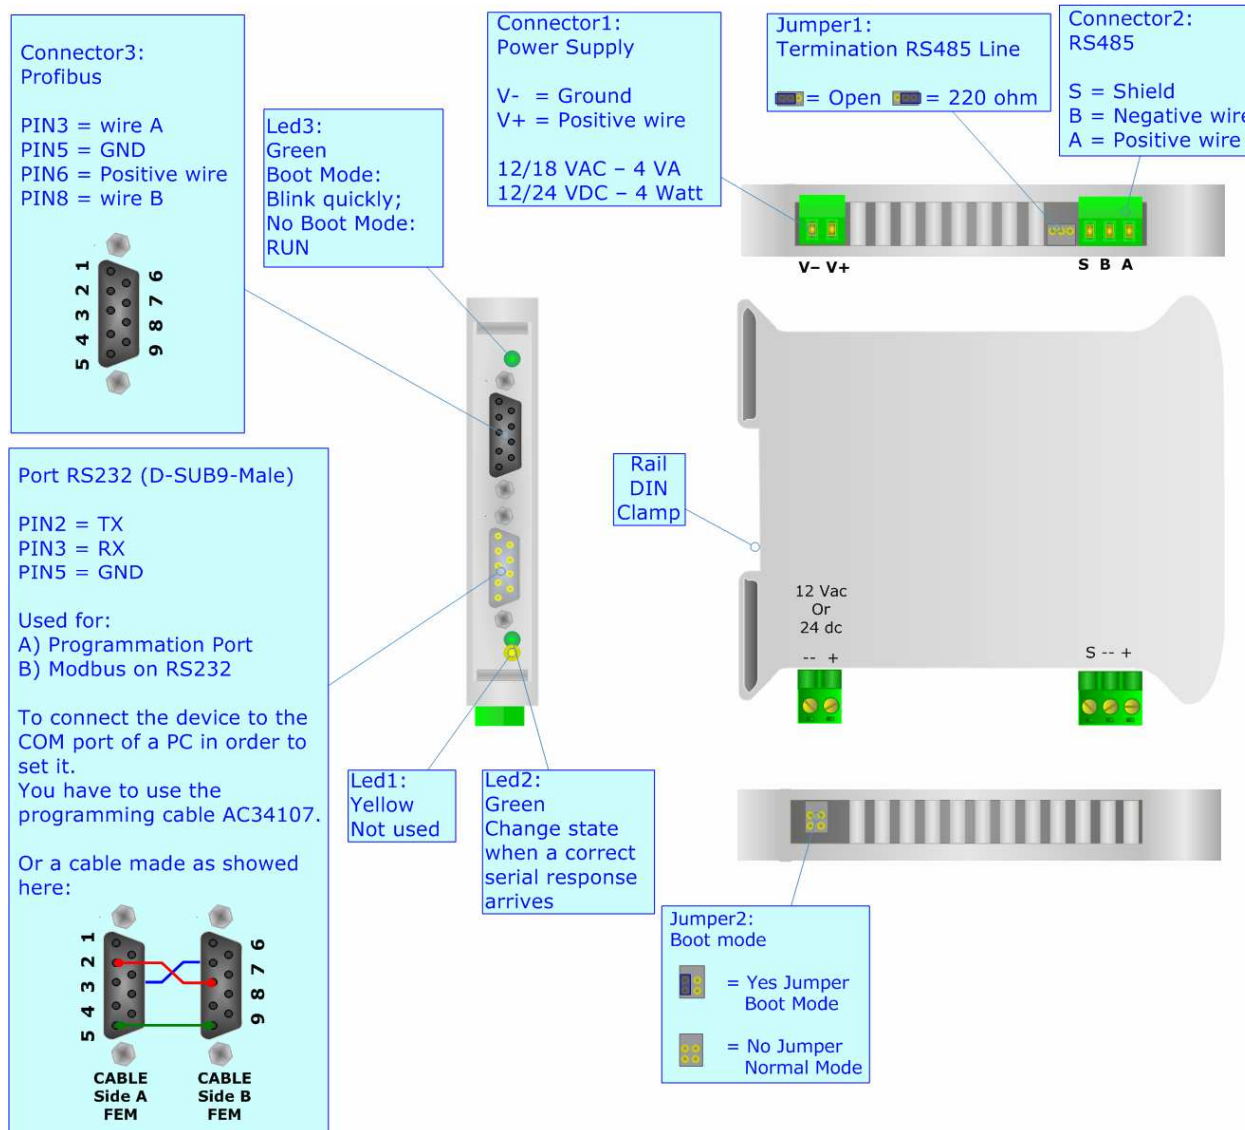

Figure 1: Connection scheme for HD67561
- Insert the Boot Jumper (see the Fig. 1 for more info).